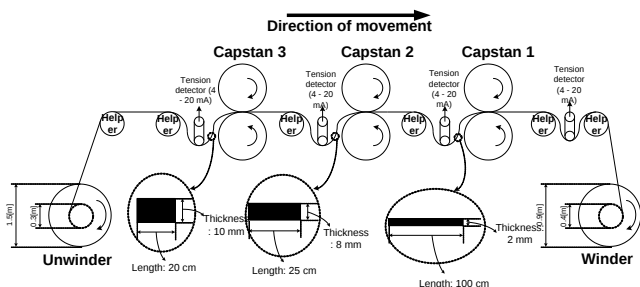

Fig. A1.1 An imaginary tension control system
Fig. A1.1 provides an outline of this imaginary tension control system.
Table A1.1 lists mechanical information for each inverter depicted in Fig. A1.1. Generally, the manufacturer of the machine provides this information.
2. Now, enter the bobbin diameter. The following formula uses the minimum diameter of 0.4 m and the maximum diameter of 0.9 m from Fig. A1.1 to calculate the ratio of the maximum diameter to the min. diameter as a percentage.
2. Now, enter the bobbin diameter. The following formula uses the minimum diameter of 0.3 m and the maximum diameter of 1.5 m from Fig. A1.1 to calculate the ratio of the maximum diameter to the min. diameter as a percentage.